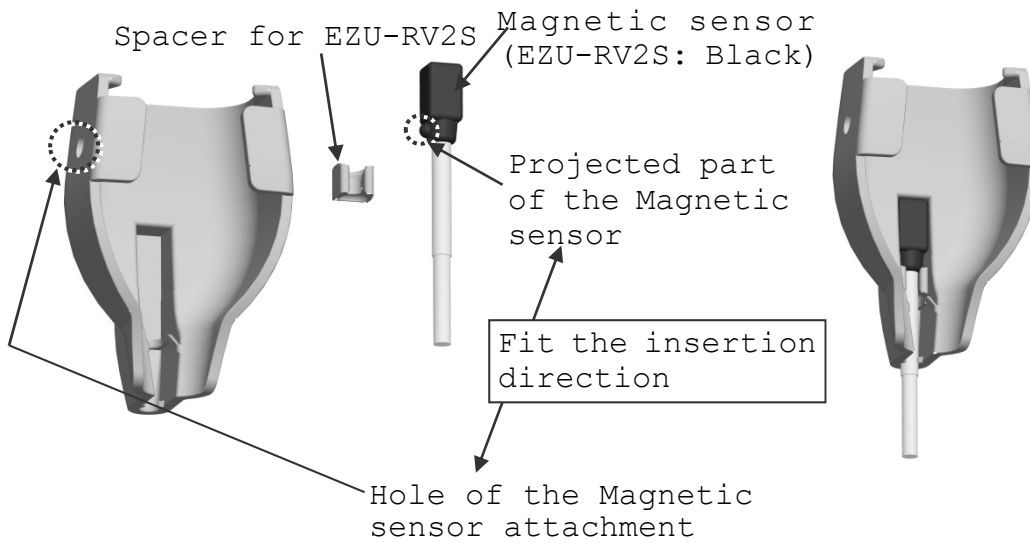

Fig. 4 How to attach the Magnetic sensor
- b) Insert the Magnetic sensor (EZU-RV2S) into the Magnetic sensor attachment with the correct direction as shown in Fig. 4.